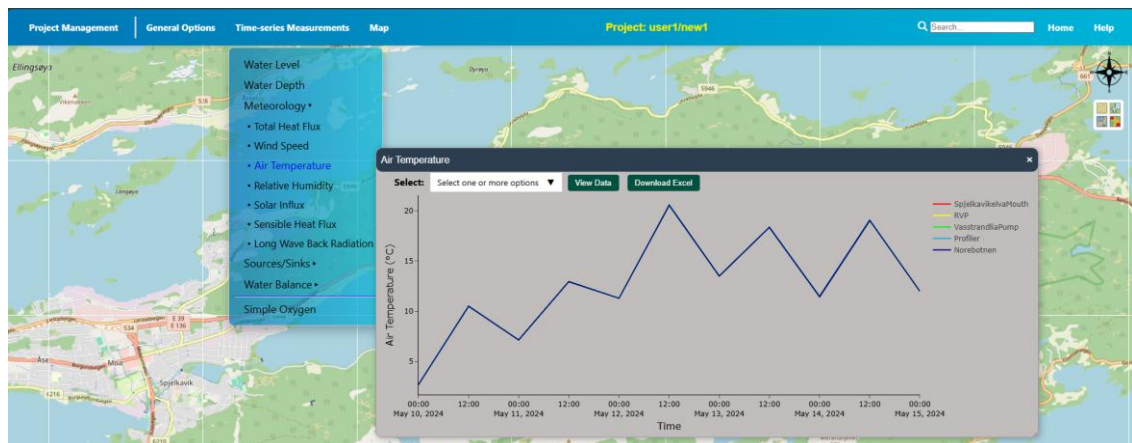
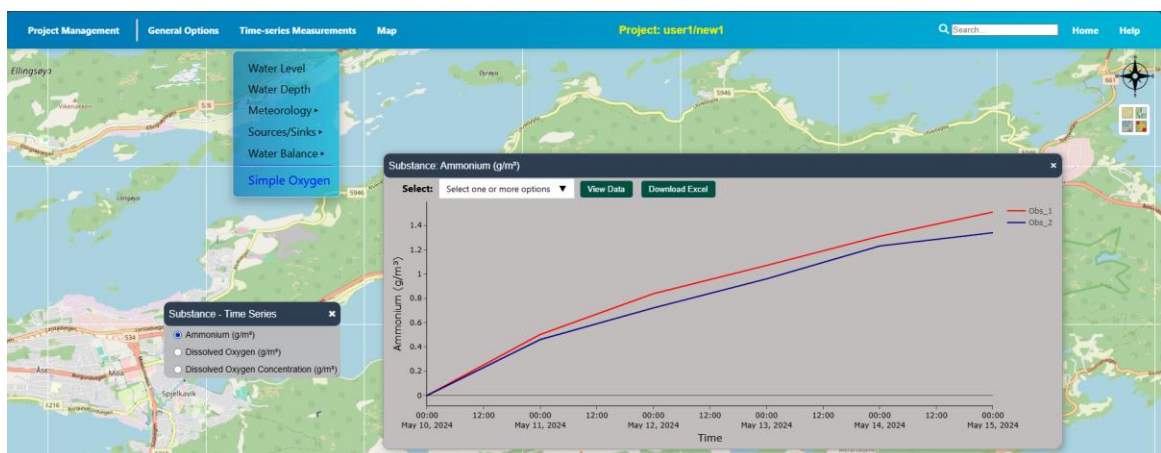

Figure 5.9a. Time-series chart for HYD simulation
Figure 5.9b. Time-series chart for WAQ simulation
- With the option “Time-Series Measurements”, user can see all time-series based outputs produced from HYD (Figure 5.9a) and WAQ (Figure 5.9b) simulations.